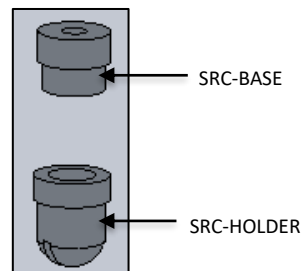

FIG. 29 - SLIP RING COUPLER (1) CONTENTS
20. Dis-assemble the SLIP RING COUPLER (1) as shown below in FIG.29 into components SRC-BASE and SRC-HOLDER.